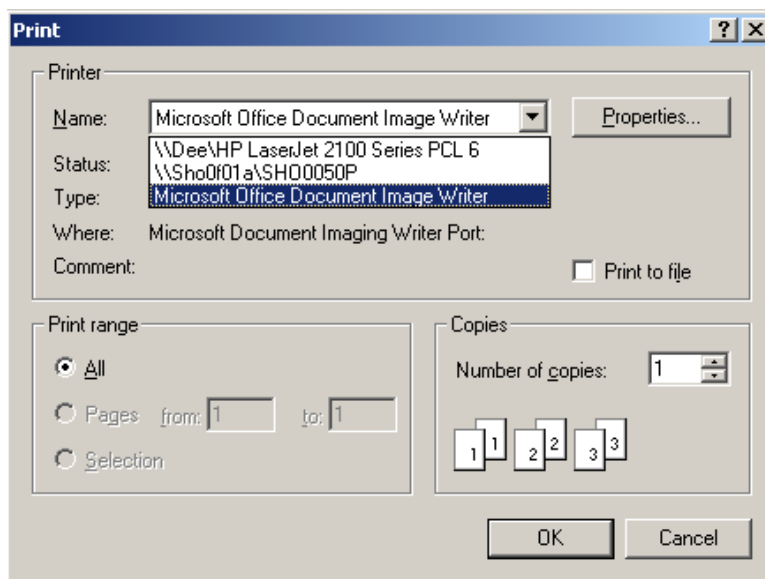

Figure 7-17 Print dialog
2. Select **File > Print** or **<Ctrl+P>**. The print dialog displays. See Figure 7-17. The Print dialog displays the name of the printer and enables setting of printer properties.